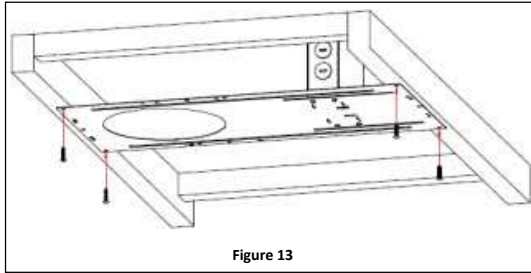

Figure 13
1. Apply the drywall pan to the ceiling joist in the desired fixture location. Be sure to allow enough space for the J-Box mounted on the pan (*if applicable*). Screw the frame to the joists using appropriate hardware (Not Included) to secure it in place. **See Figure 13.**